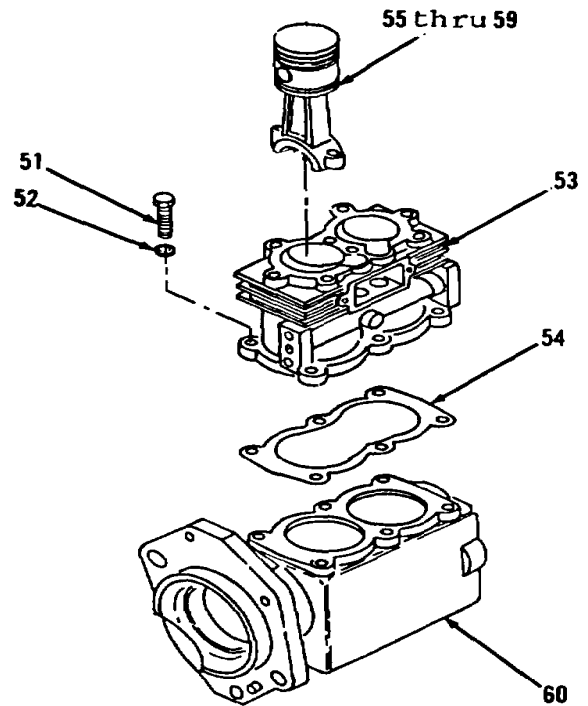

Figure 6-51.
25. Remove six bolts (51) and lock-washers (52) from block (53) on crankcase (60, Figure 6-51).
26. Remove block (53) and gasket (54) from crankcase (60). Discard gasket (54). Remove all gasket material from mounting surfaces.